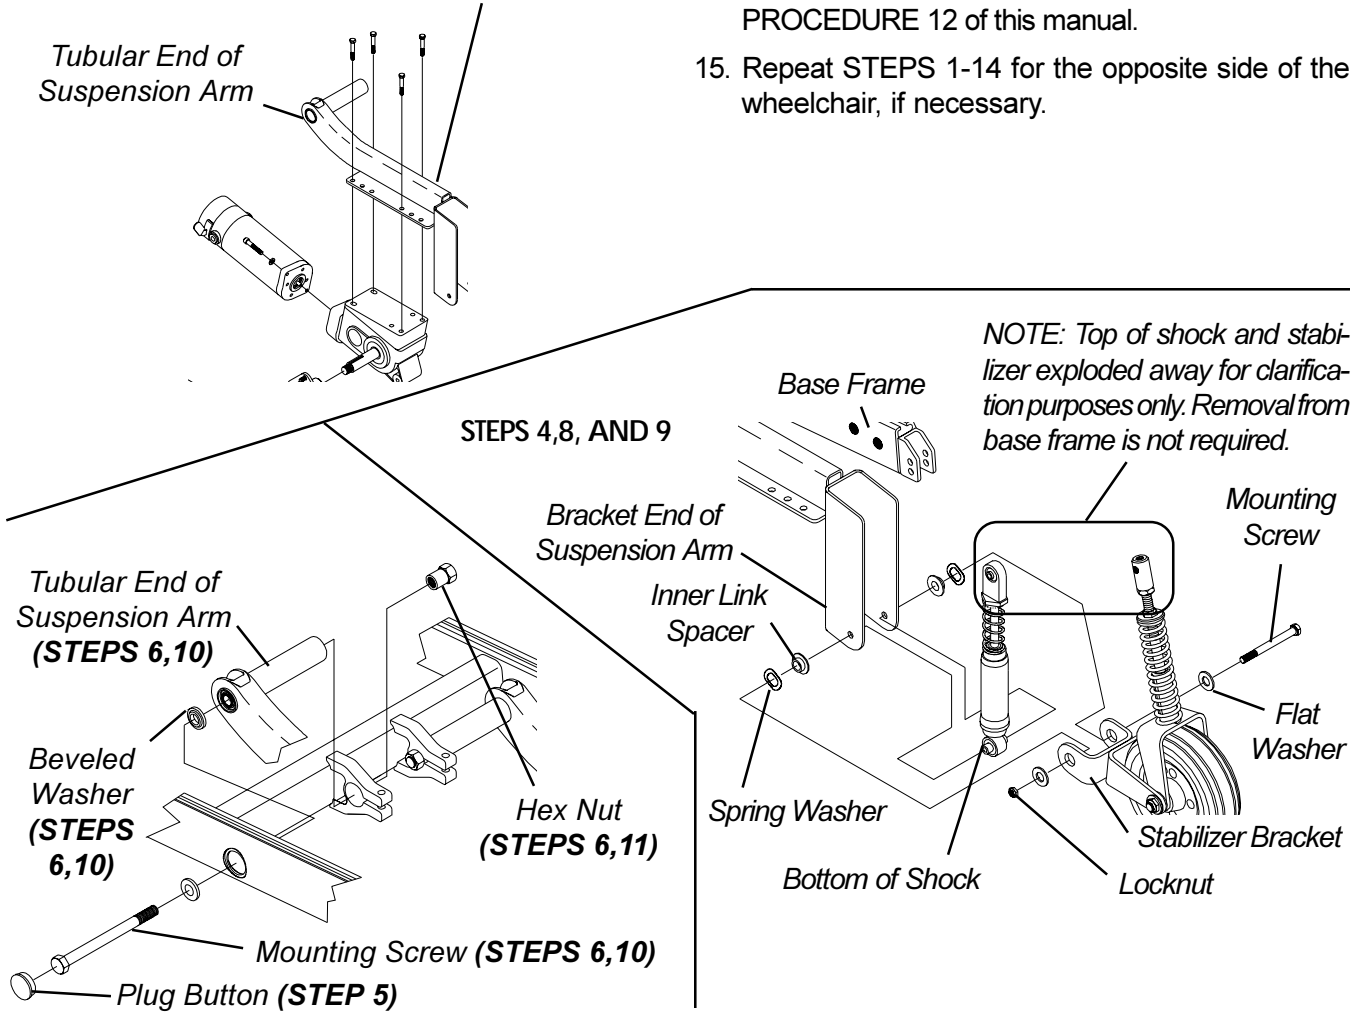

FIGURE 13 - REPLACING SUSPENSION ARM
**REPLACING SUSPENSION ARM (FIGURE 13)**
- Perform one (1) of the following:
- (GROUP 22)** - Loosen the two (2) mounting screws that secures the rear of the battery tray to the sub-frame assembly.
4. Remove the mounting screw, two (2) flat washers, two (2) spring washers, two (2) inner link spacers, and locknut that secures the bracket end of the suspension arm, the bottom of the shock, and stabilizer bracket together.